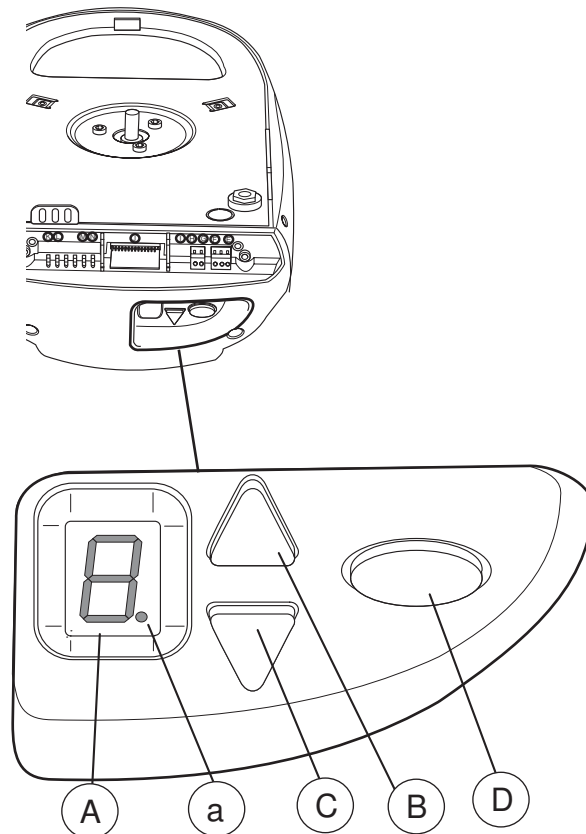

Figure 9 Control elements
- A Numerical display shows the menu stage as well as the selected value (Figure 9).